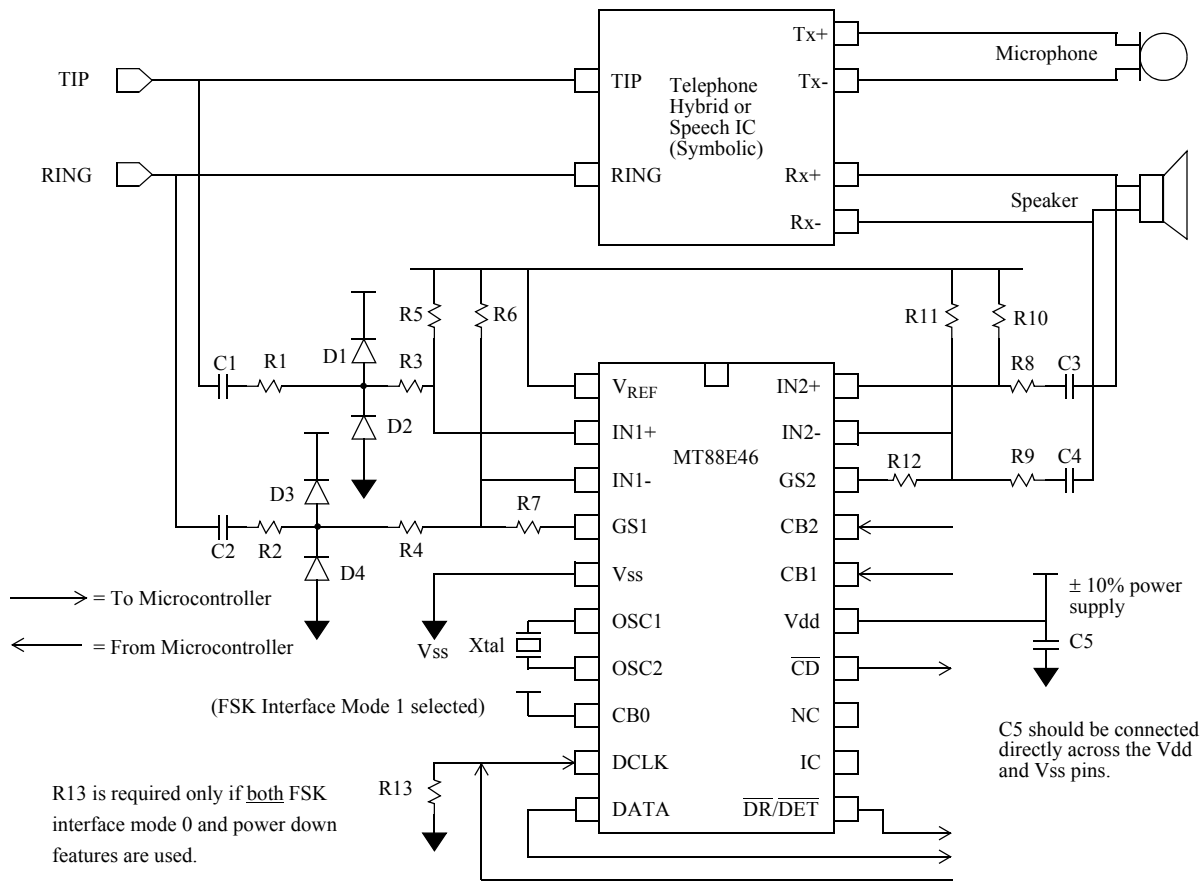

Figure 8 - Application Circuit: MEI Compatible Type 2 Telephone
The MT88E46 can be powered down to consume virtually no power supply current via a state of the CB0/1/2 pins. Momentary transition of CB0/1/2 into the power down code will not activate power down. In power down mode both input op-amps, V_{REF} and the oscillator are not operational; DCLK becomes an input pin because to select the power down state CB0 is 1 which selects FSK interface mode 1. If the application uses FSK interface mode 0 and the MT88E46 needs to be powered down, then during power down the input state of the DCLK input must be defined, for example, by a pull down resistor (R13 in Figure 8) so that the MT88E46 will draw minimal power supply current. When the MT88E46 is powered down DATA, $\overline{DR/DET}$, $\overline{CD}$ are high.
- For the GS1 op-amp, start with the 0dB gain setting resistor values of $R_{5_{0dB}}$, $R_{6_{0dB}}$ and $R_{7_{0dB}}$. In Figure 8 they are 53K6, 60K4 and 464K respectively. Keep R1, R2, R3, R4, C1, C2 as in Figure 8 to keep the input highpass filter corner frequency constant for all gain settings.